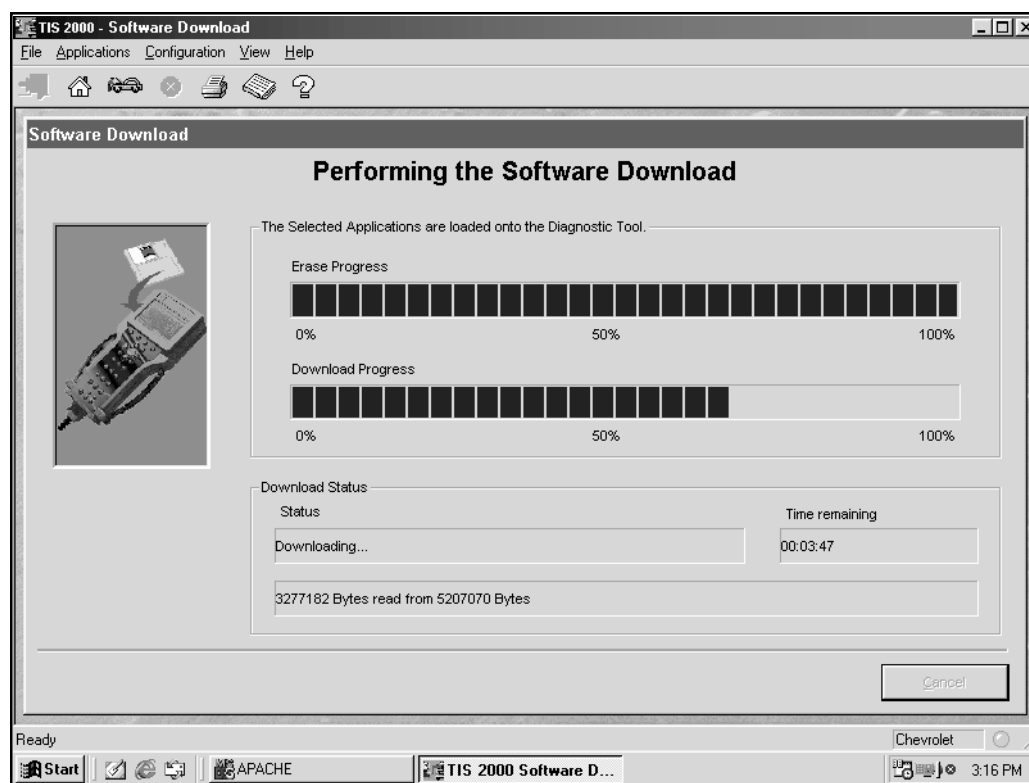

Figure I-58, Software Download Status
7. A **Performing the Software Download** screen will appear (Figure I-58). It tracks the status of the download.
8. A Performing the Software Download screen will appear (Figure I-58). It tracks the status of the download.